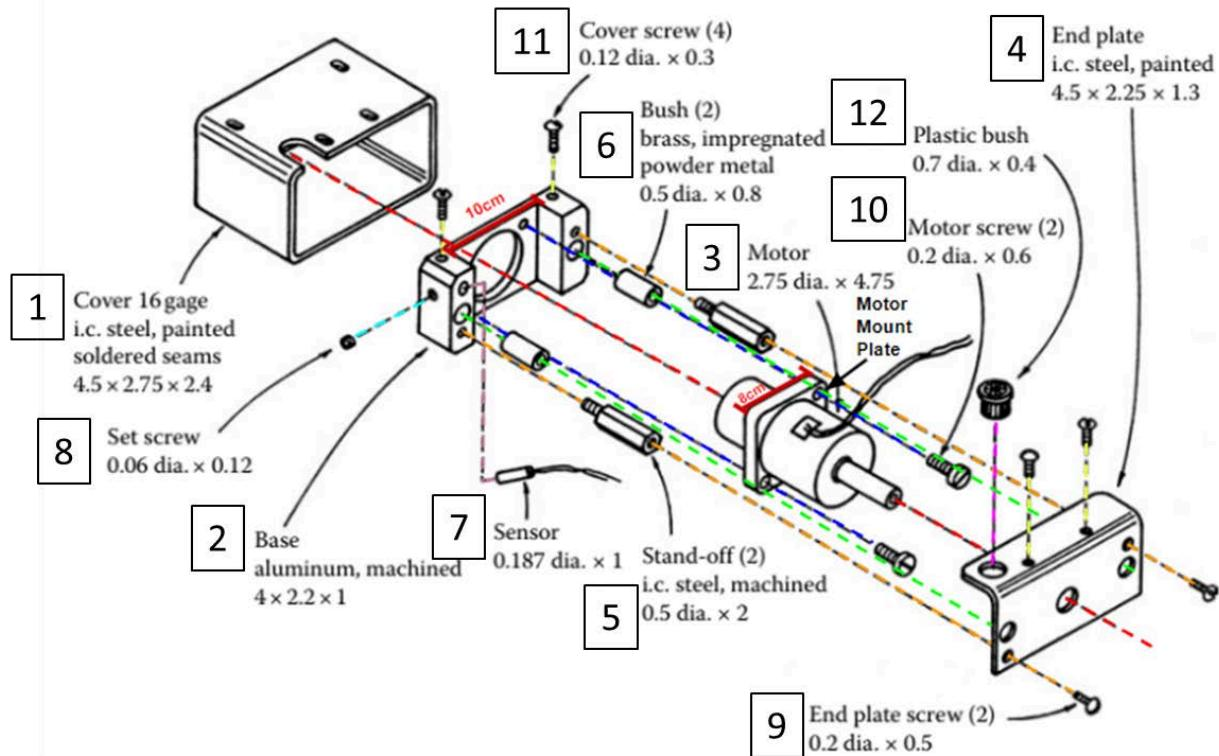

Figure 1. Design Proposal for a Motor Drive Assembly Unit (Exploded View).
a. The first step in assessing the current design is understanding it. Describe how the individual parts shown in Figure 1 and listed above are assembled into the complete drive assembly unit. *Tip: many parts assemble onto the base, so that's a good place to start.*